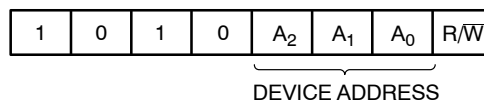

Figure 3. Slave Address Bits
The Master addresses a Slave by creating a START condition and then broadcasting an 8-bit Slave address. For the NV24C32, the first four bits of the Slave address are set to 1010 (Ah); the next three bits, A₂, A₁ and A₀, must match the logic state of the similarly named input pins. The R/W bit tells the Slave whether the Master intends to read (1) or write (0) data (Figure 3).